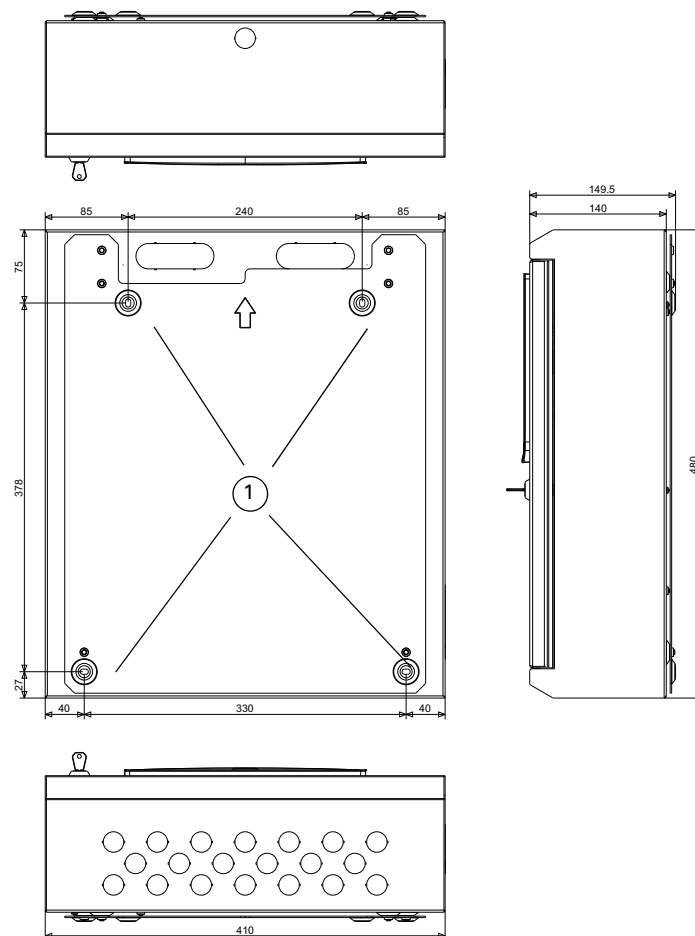
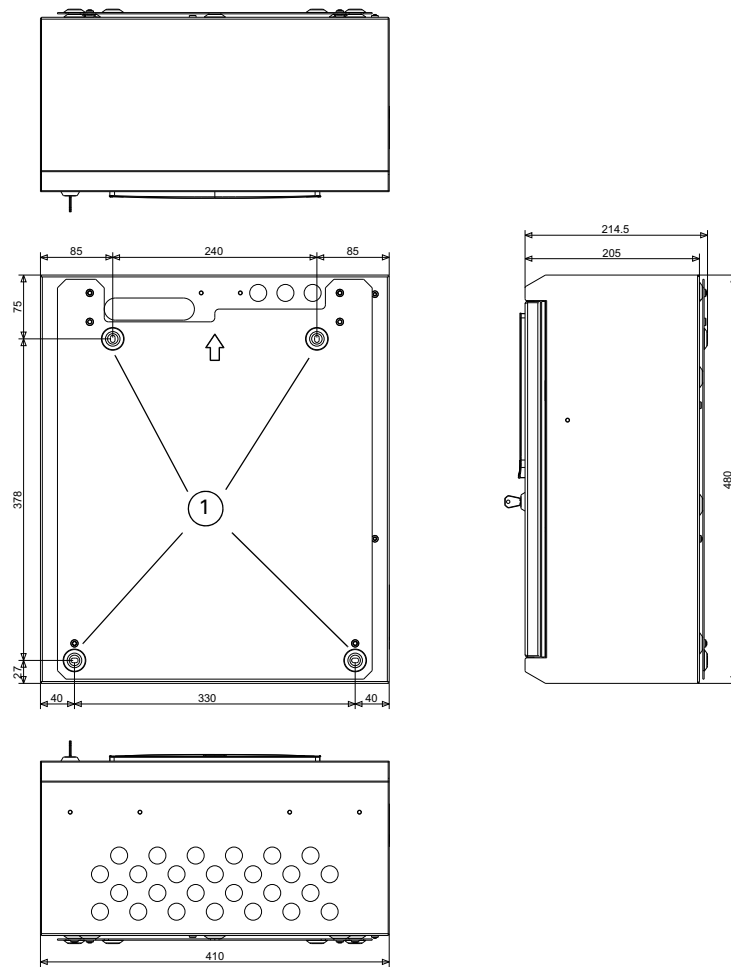

Fig. 2: FC702S - Mounting plate fixing and overall dimensions in mm
Fig. 3: FC702D, FC718D and FC708D panels - Mounting plate fixing and overall dimensions in mm
- Determine the mounting positions and as a double check, use the dimensions in Fig. 2 for a FC702 panel and Fig. 3 for a FC708/FC718 panel.